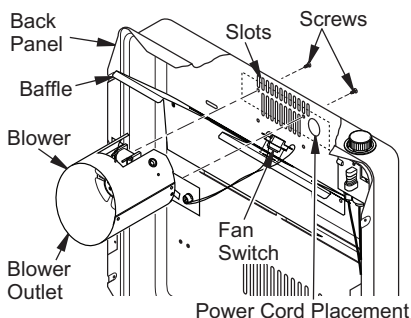

Figure 5: Front of Heater, Attaching blower
8. Position blower assembly on cabinet back panel with inlet over slots in panel, outlet pointed towards front (see Figure 5).
9. While holding blower against inside of back panel, attach blower with two #10 screws (supplied) as shown in Figure 5).
10. Attach blower switch to upper baffle with two #8 screws see Figure 5.